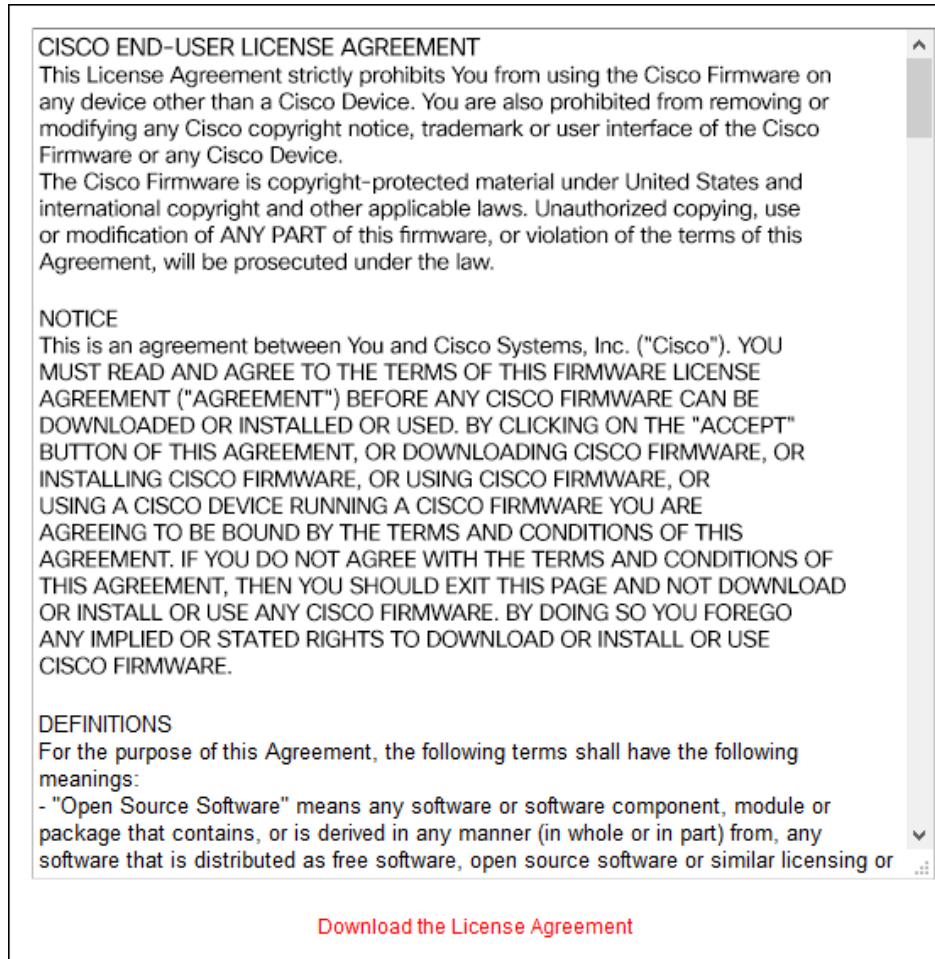

Figure 57. Configurator GUI (End-user license agreement)
- The license agreement dialog will be shown (Figure 57 (page 106)).